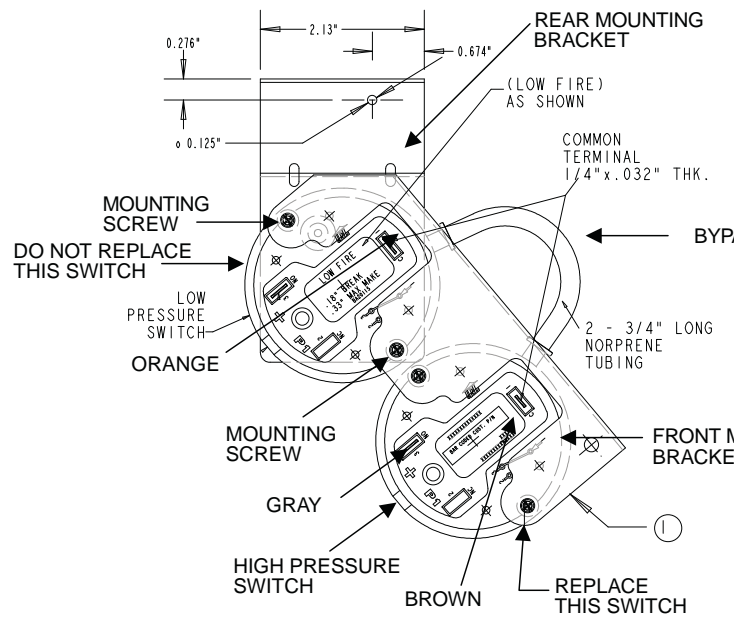

Fig. 1 – Pressure Switch
1. Mark two (2) wires connected to the high- fire pressure switch.
2. Disconnect the two (2) wires from the high- fire pressure switch.
5. Remove the two (2) screws securing high-fire pressure switch to mounting bracket, see Fig. 1.
7. Install new high altitude high-fire pressure switch to the mounting bracket with two (2) screws.
10. Reconnect wires to the switch as shown in Fig. 1 or refer to the furnace wiring diagram.